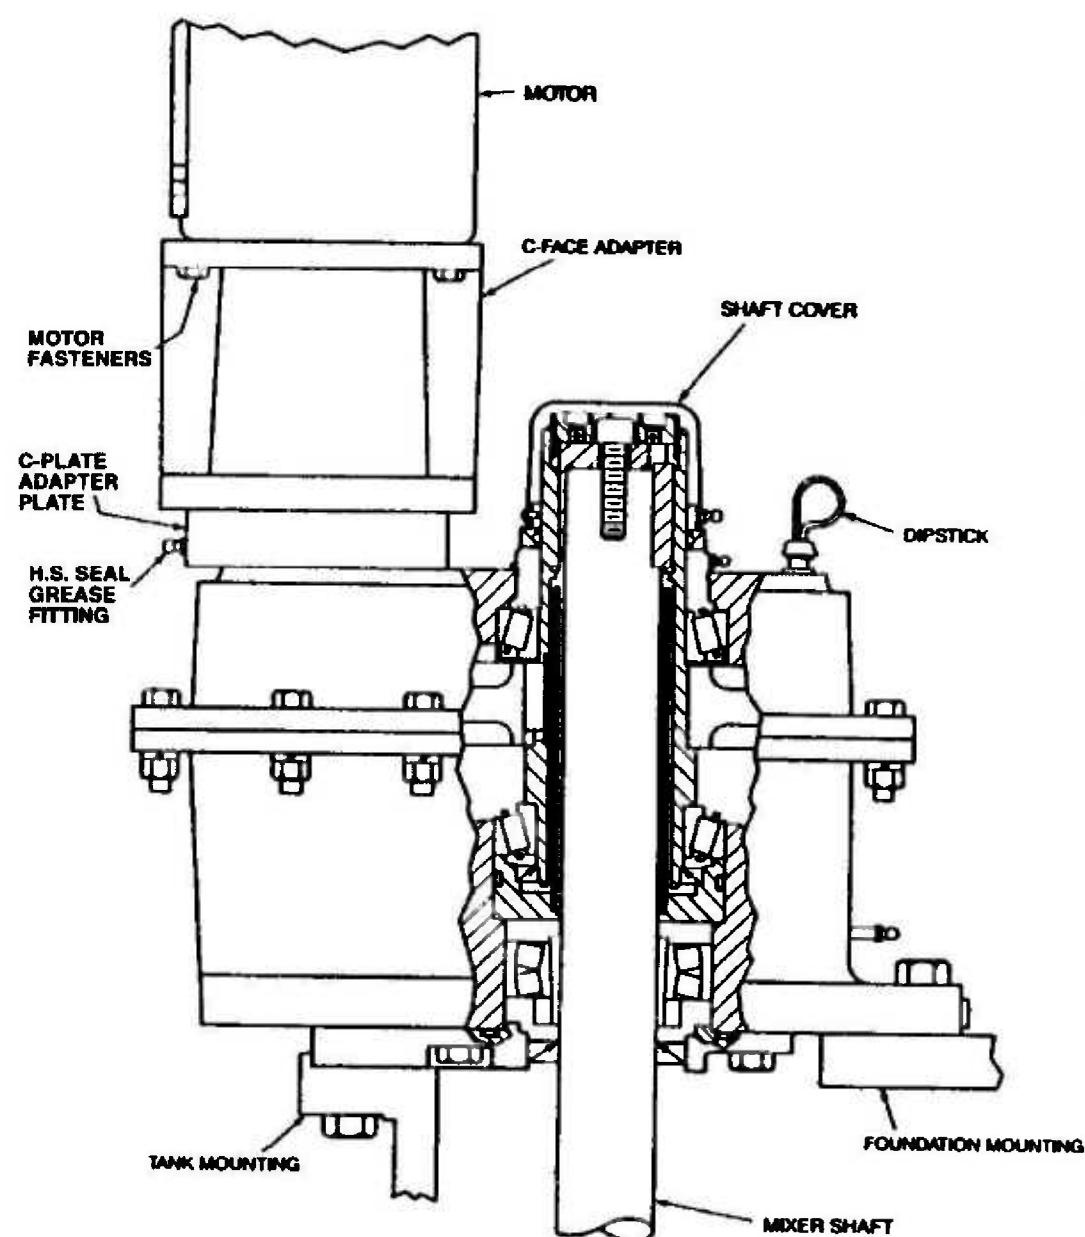

Figure 16 — Installing the C-faced motor
1. Refer to Fig. 16. Pump NLGI #2 bearing grease into the grease fitting on the adapter plate while rotating the high-speed shaft until a uniform bead of grease appears at the base of the high speed shaft.